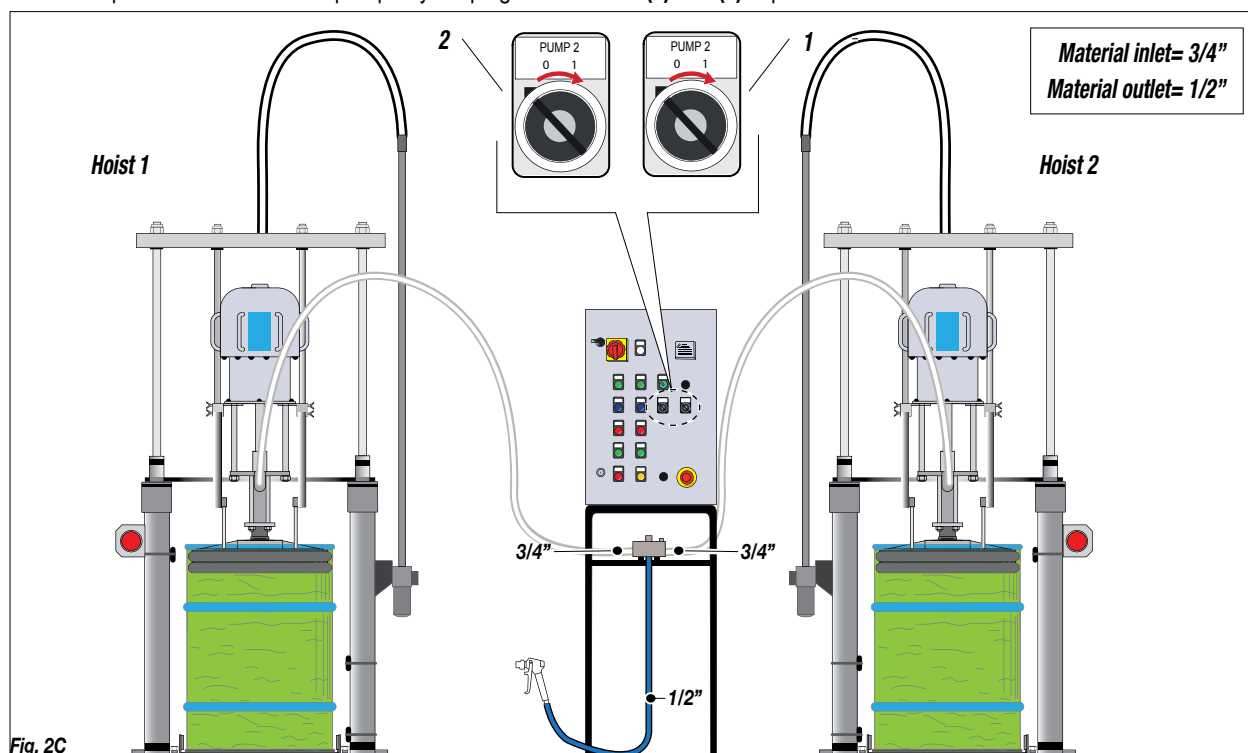

Fig. 2C
- Subsequently, the drums are loaded on the hoists (see Fig. 2C) and the pressing plates are inserted into the drums.
- The operator then drains the pumps by keeping the selectors (1) and (2) in position 1.